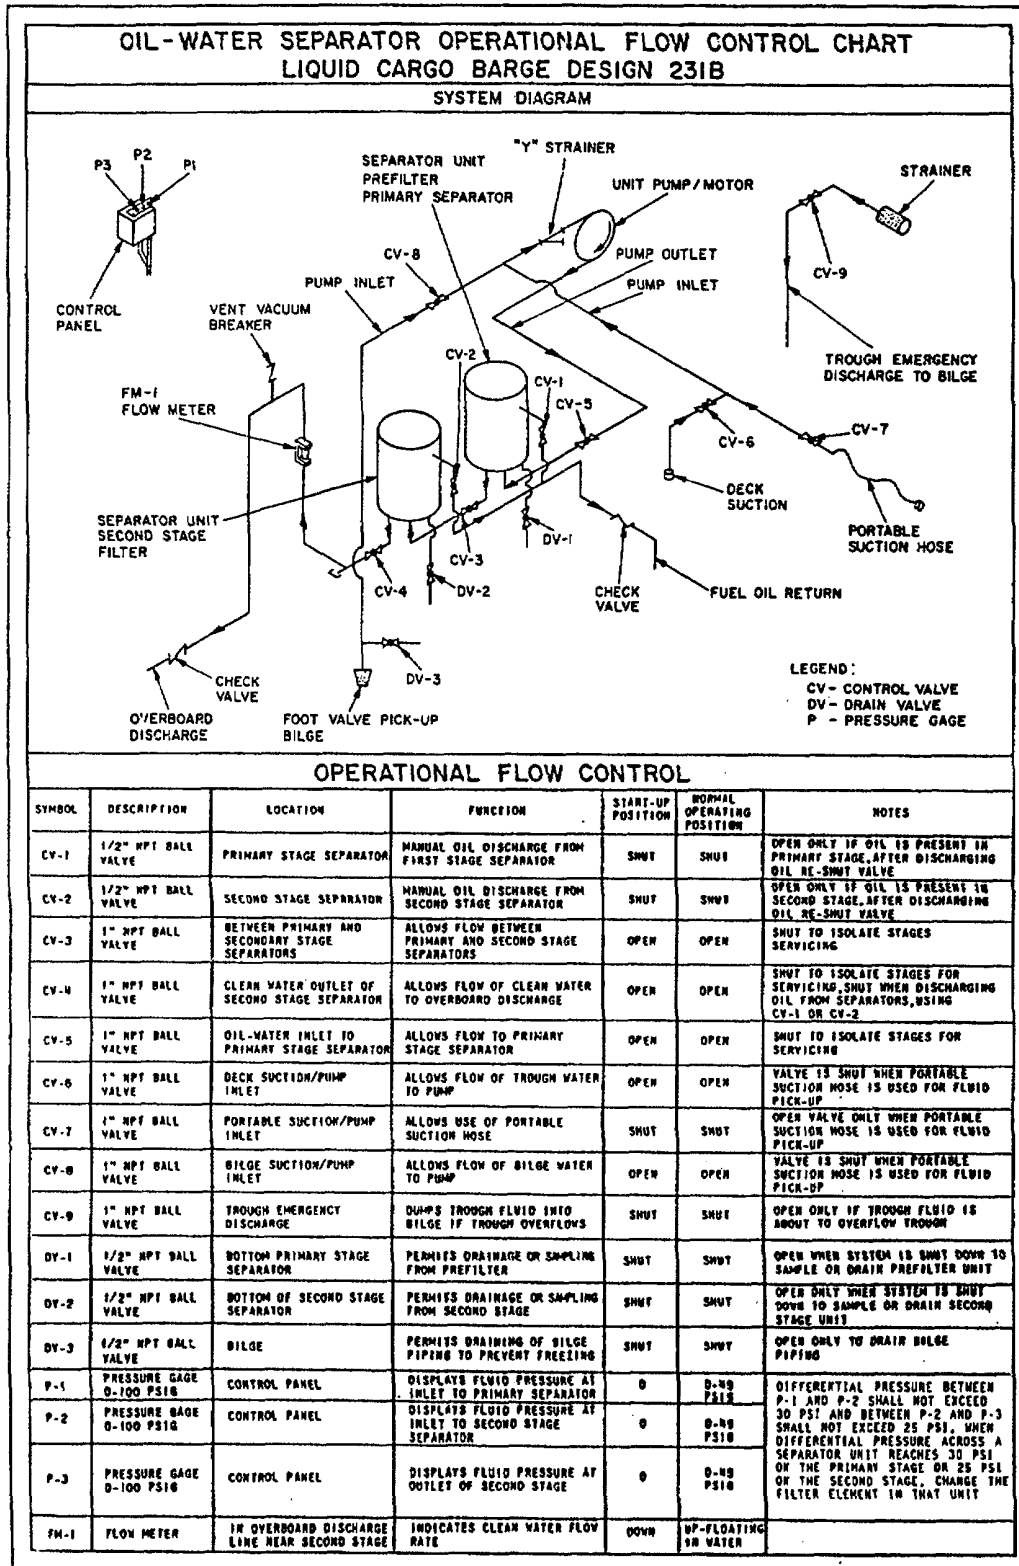

Figure 2-18. Oil/Water Separator System Instruction Placard.
- (1) Location. T.B.S.
- (2) Content. See figure 2-18 for a duplication of the instruction placard.